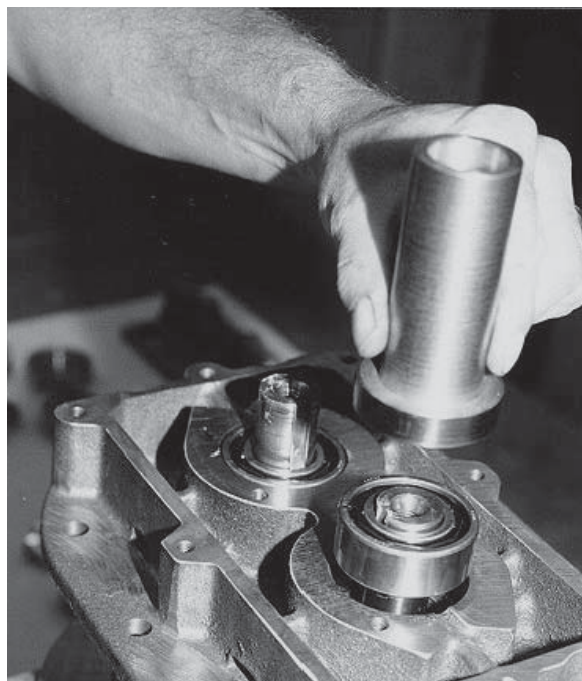

Figure 8-11 – Tapping Bearings into End Plates
2. Apply a thin coat of lubricant on the rotor shafts and the inner race of the bearings. Tap the bearings into place using a tube with a flanged end that will contact both the inner and outer bearing races (see **Figure 8-11**).